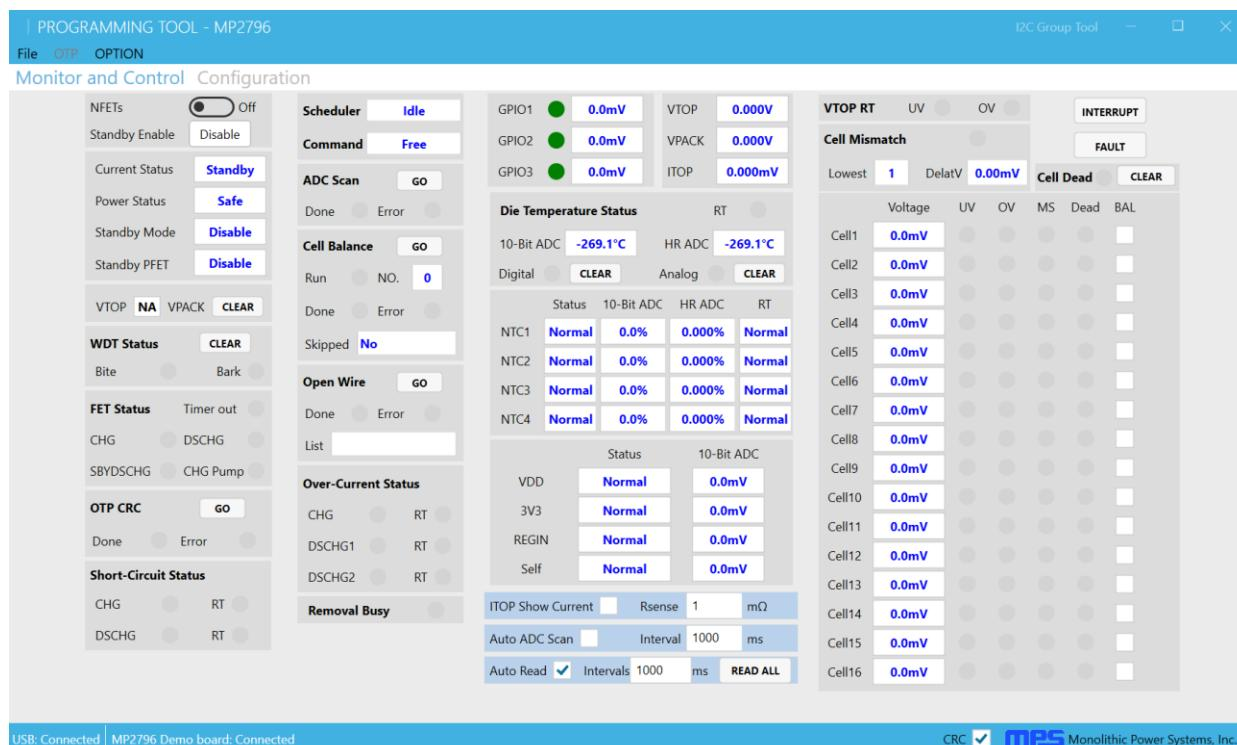

Figure 11: USB and MP2796 Demo Board Statuses Show Successful Connection
- If the connection is successful, both the USB and MP2796 demo board statuses are listed as “Connected” at the bottom left of the screen (see Figure 11).